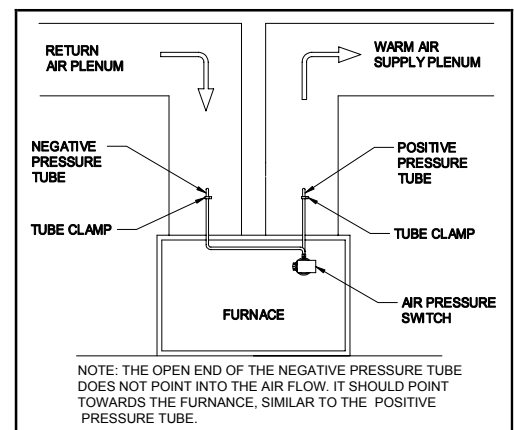

Figure 6
- b. The air pressure switch has been installed to sense positive pressure only. Installation of an additional pressure sensing tube on the return plenum side of the furnace will allow the switch to more easily detect blower operation. Follow the same steps (steps 3 through 5) listed above for installation of the original tube, except that the additional tube will be located in the return air plenum. This additional tube is not supplied. Repeat step 9 following installation of this additional tube. (See Figure 6).